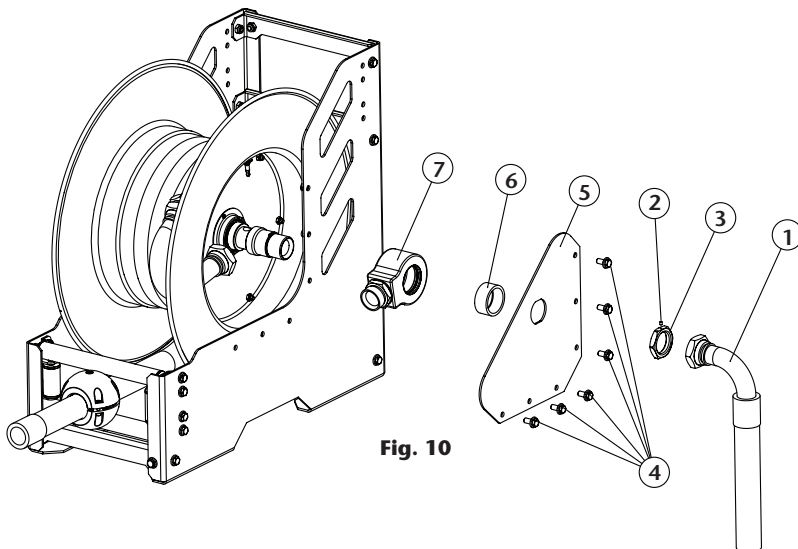
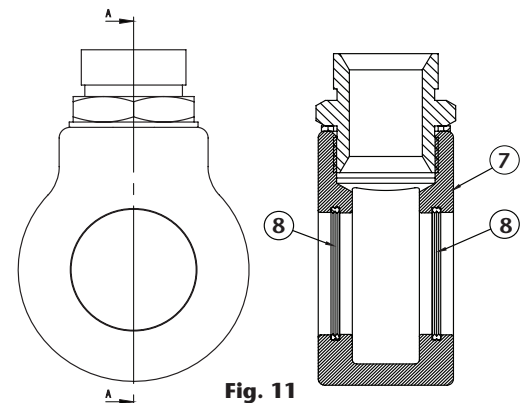

Fig. 10
Fig. 11
2. Loosen the set screw in the nut (2) and remove said nut (3) (Fig. 10).
3. Remove the screws (4) and the lateral cover (5) and the spacer tube (6) (Fig. 10).
5. Remove the swivel (7) (Fig. 10 & 11) and replace it with a new one, or replace the seals (8) (Fig. 11). Make sure the seals are placed correctly.